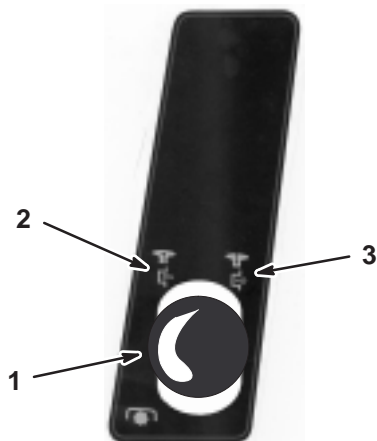

Figure 10
4. Disengage the blades (PTO). Refer to Figure 10.